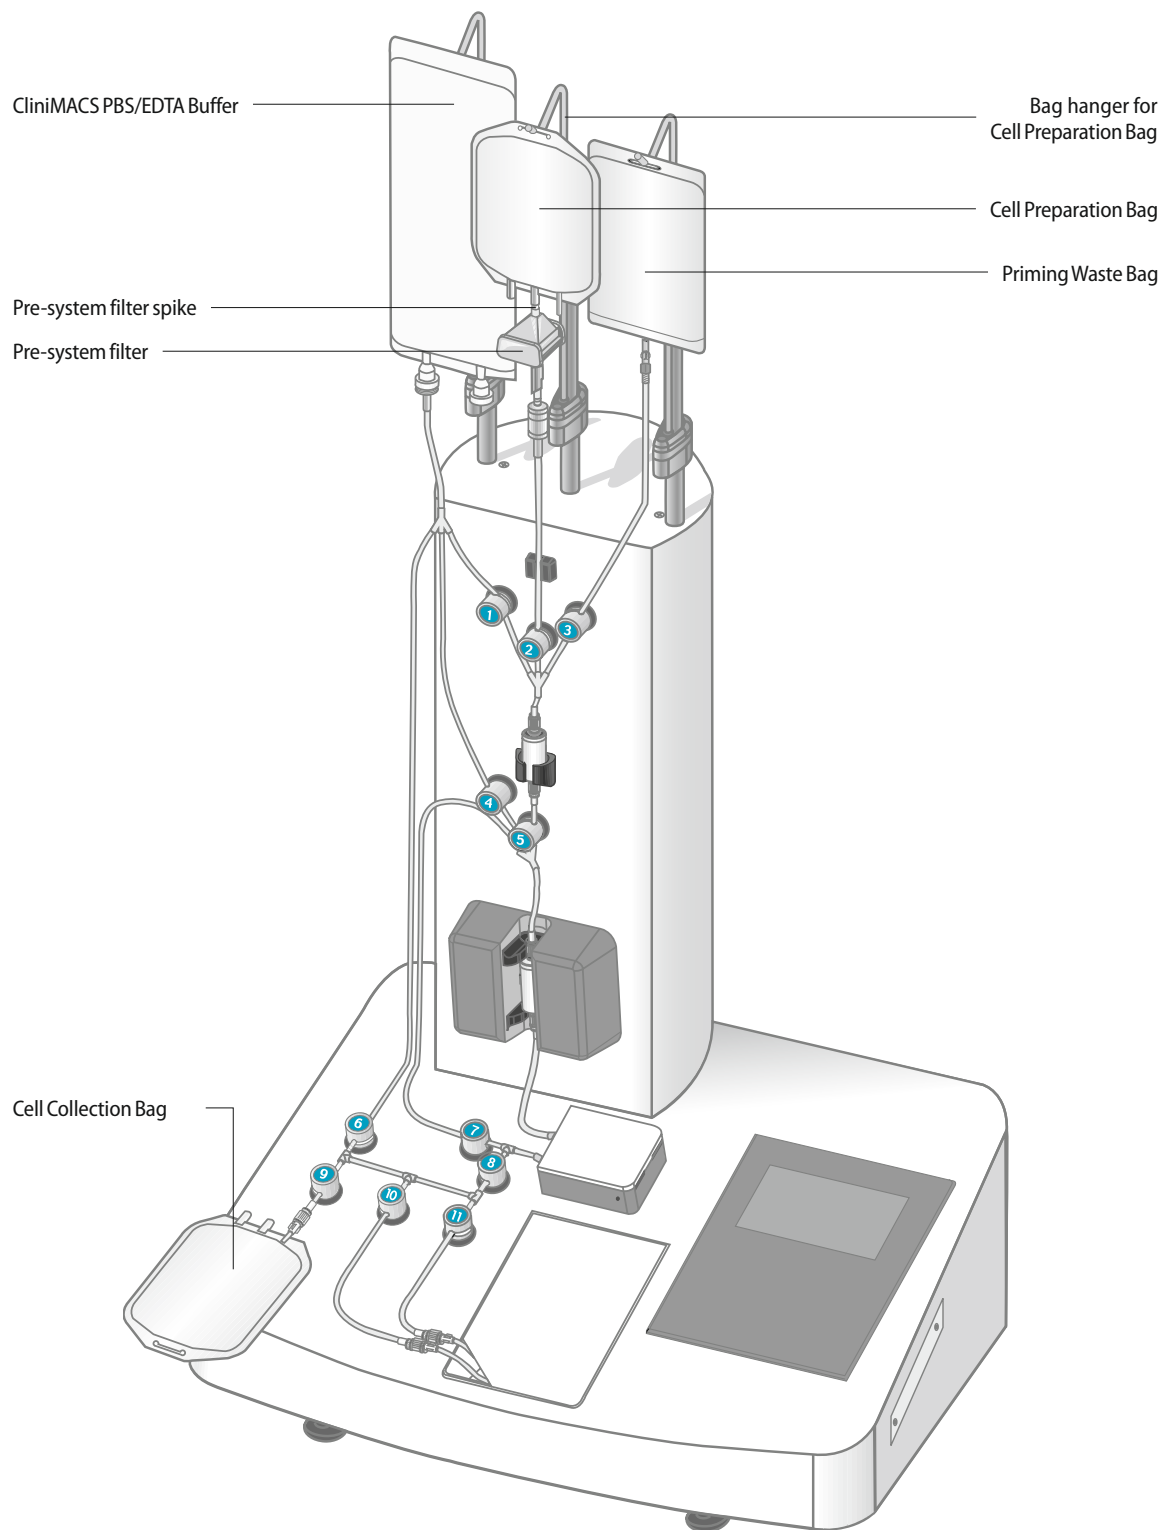

Figure 4-3.9: CliniMACS Plus Instrument with CliniMACS Tubing Set, CliniMACS PBS/EDTA Buffer, Cell Preparation Bag, and Cell Collection Bag
After the priming phase has been completed and no leaks or malfunctions are observed, the Cell Preparation Bag can be attached (see Figure 4-3.9). Use aseptic techniques for all steps.
2. Remove the cap from the lower opening of the pre-system filter (see Figure 4-3.9). Firmly insert the spike into the pre-system filter. **Do not** remove the top cap of the pre-system filter.
3. Remove the cap from the pre-system filter spike (see Figure 4-3.9).
4. Spike the Cell Preparation Bag with the pre-system filter (see Figure 4-3.9) ensuring that the septum is punctured, allowing free flow of liquid. Gently squeeze the bag to confirm that the spike has penetrated the bag.